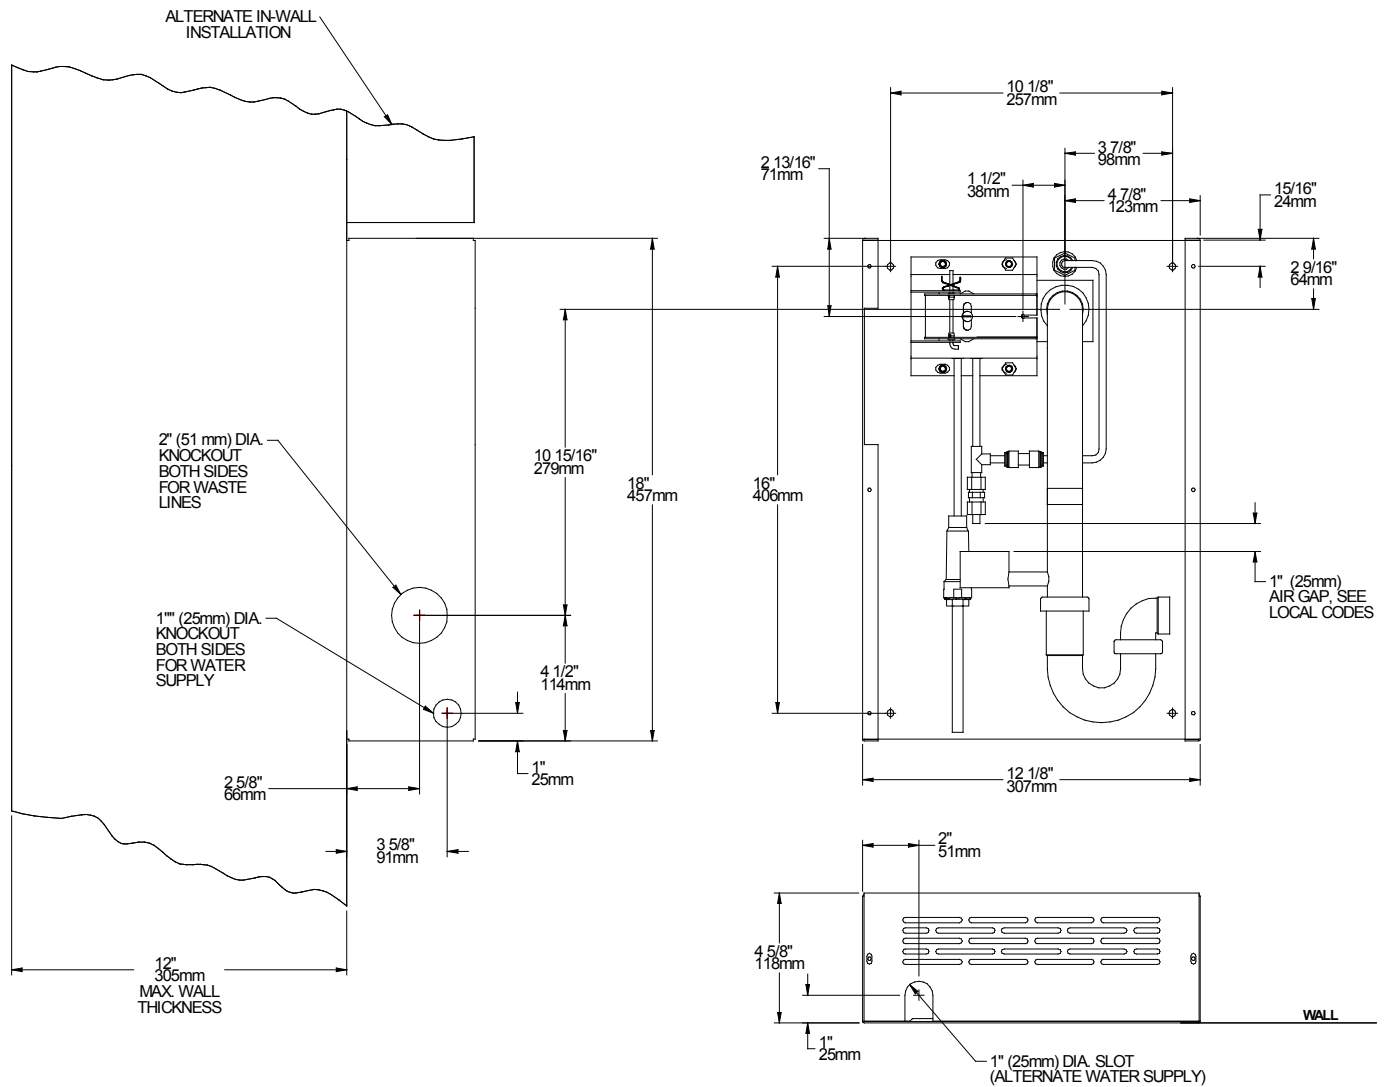
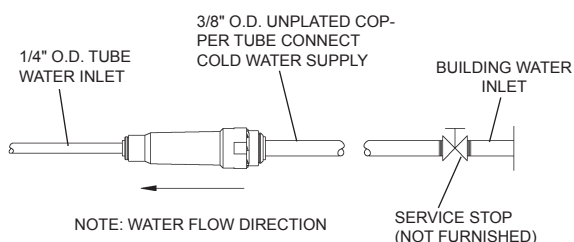

FIG. 1
FIG. 7
5. Connect drain and water supply lines to the freeze resistant fountain. Refer to Figure 1 for component positions. Inline strainer must be used on the inlet water line. See Figure 7.